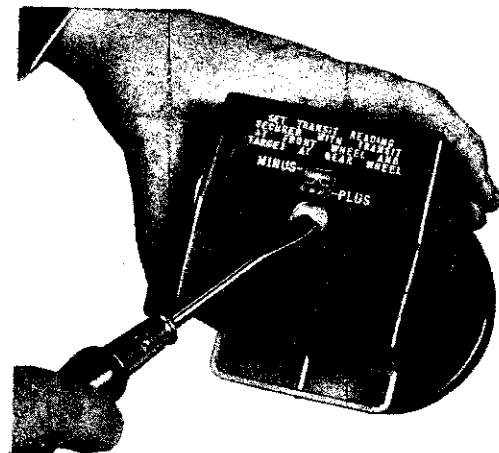

Fig. 2—Adjusting the Floor Level Compensator in the Aimers
(3) Turn the dial on the side of the transit until the bubble in the spirit level is centered.
(4) When the bubble is centered, note "plus" or "minus" reading on the compensator scale. This figure indicates the degree of slope of the floor and must be transferred to each aimer as follows:
(5) With a screw driver, turn the adjusting slot of the floor level compensator in each aimer, until the correct plus or minus figure (or fractional part) appears in the proper window (Fig. 2).